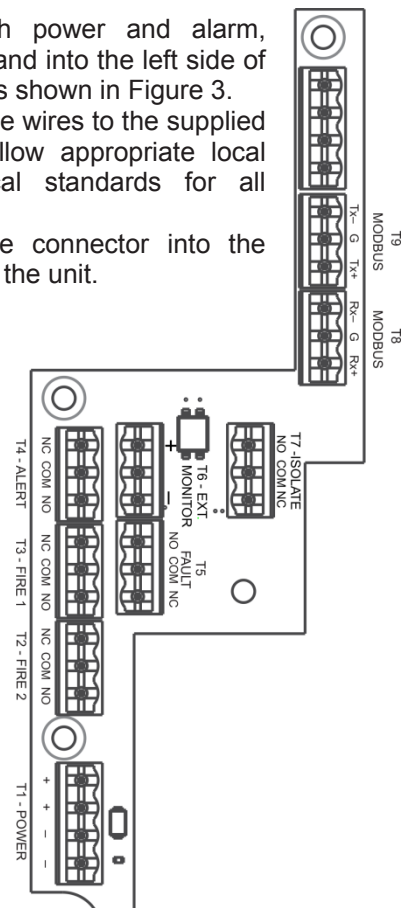

Figure 3: Power and Alarm Connections
1. run all wiring, both power and alarm, through the conduit and into the left side of the unit enclosure, as shown in Figure 3.